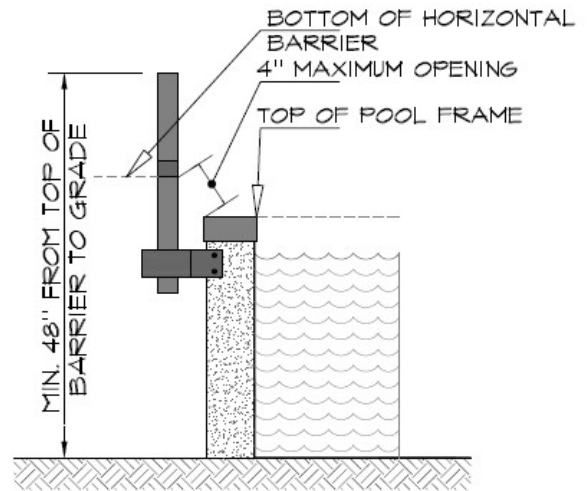

Figure 2
1. The top of the barrier shall be at least 48" above grade, measured on the side of the barrier which faces away from the swimming pool. The maximum vertical clearance between grade and the bottom of the barrier shall be 2 inches for grade surfaces such as grass, mulch, and gravel, and 4" for solid surfaces such as concrete, **See Figure 3.** Where the barrier is mounted on top of the pool structure, the maximum vertical clearance between the top of the pool structure and the bottom of the barrier shall be 4 inches. **See Figure 2.**
of Figure 2